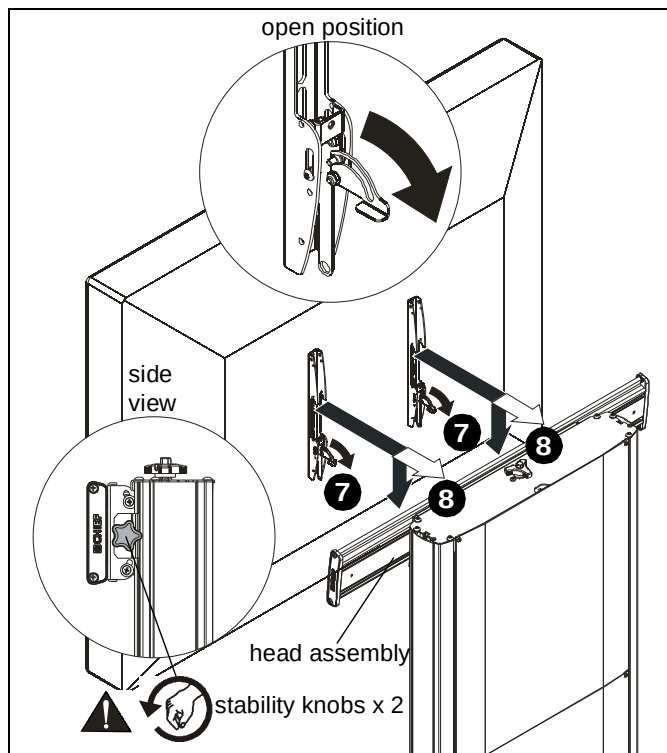

Figure 8
7. Position latches on interface uprights so that they are in the “open” position. (See Figure 8)
8. Hang interface uprights (B) on head assembly. (See Figure 8)